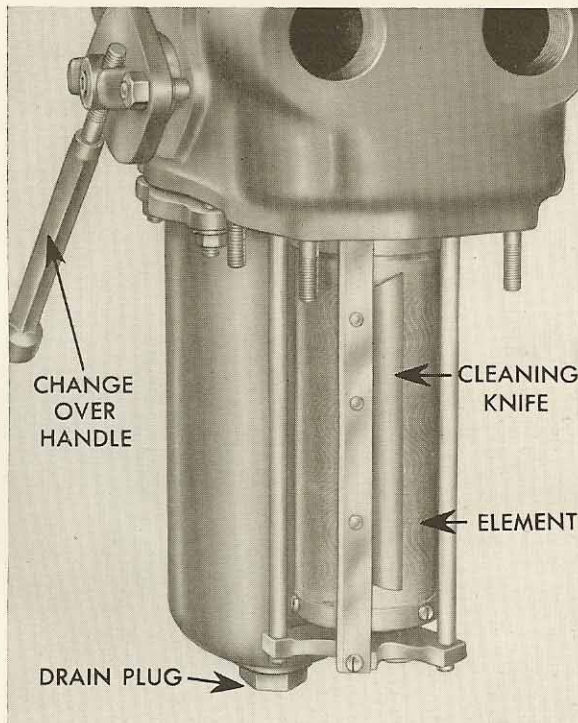

FIGURE 20-5
7. LUBE OIL STRAINERS: The oil from the pressure pump next passes through the strainers shown in Figure 20-5. These strainers are so arranged that oil can be directed through one while the other is being cleaned. This change over is made by moving the lever from one extreme position to the other. The strainer consists of a metal element having openings about 0.003 inch. The dirt and solid matter is caught on the outside of this